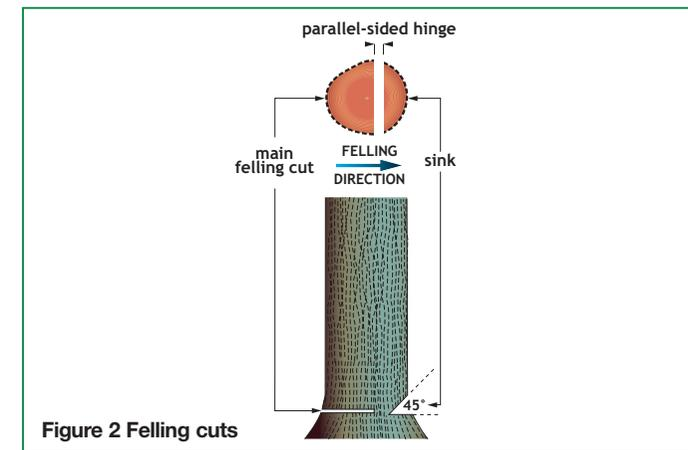

Figure 2 Felling cuts
- ❑ 15 Make the main felling cut at or slightly above the level of the bottom sink cut (see Figure 2). Use appropriate aid tools or techniques where there is a possibility of the tree moving and trapping the saw.